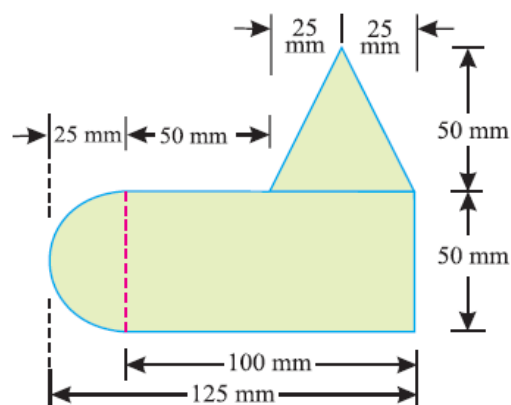

Fig. 11
1. A uniform lamina shown in Fig. 11 consists of a rectangle, a circle and a triangle. Determine the center of gravity of the lamina. All dimensions are in mm [10 M]